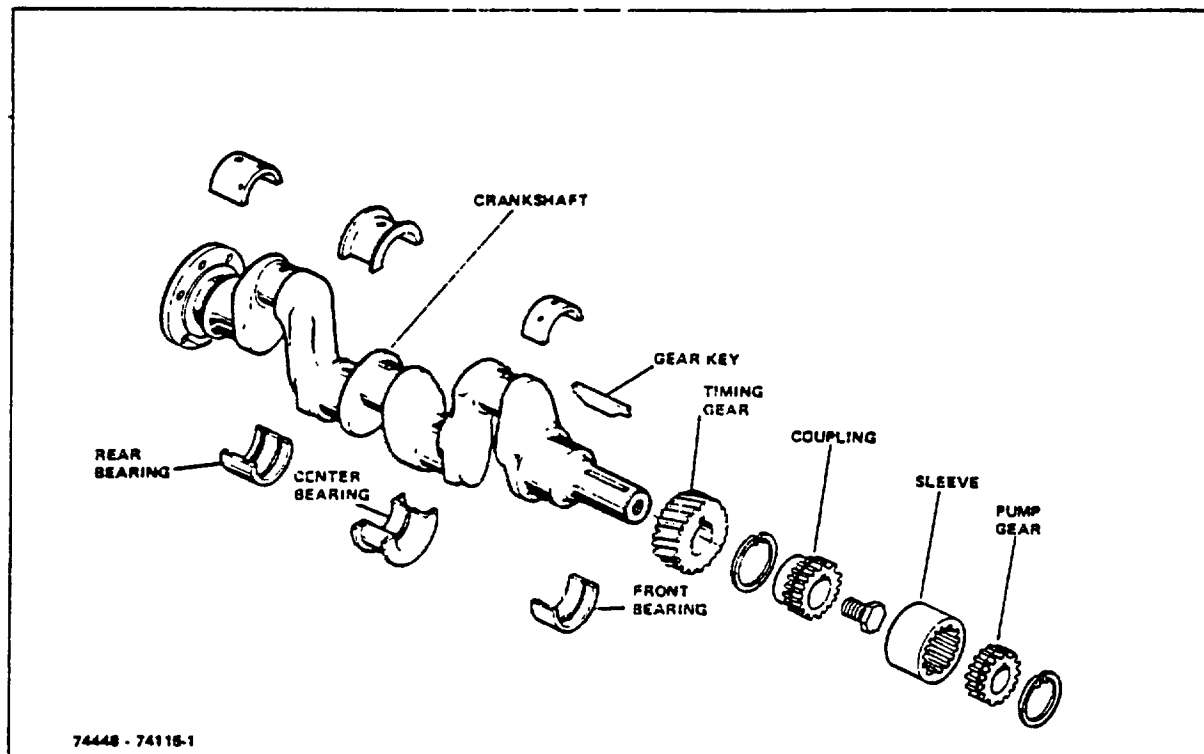

Figure 6-2. Crankshaft Assembly
30. Carefully lift the crankshaft (Figure 6-2) from the bearing mountings. Avoid nicking or bumping the bearing surfaces while handling
4. Install key and crankshaft gear. Install pump coupling (Figure 6-2) on crankshaft. Tighten capscrew to 140-150 lb. ft. Refer to TOPIC 10,
7. Install pump sleeve and pump gear (Figure 6-2).